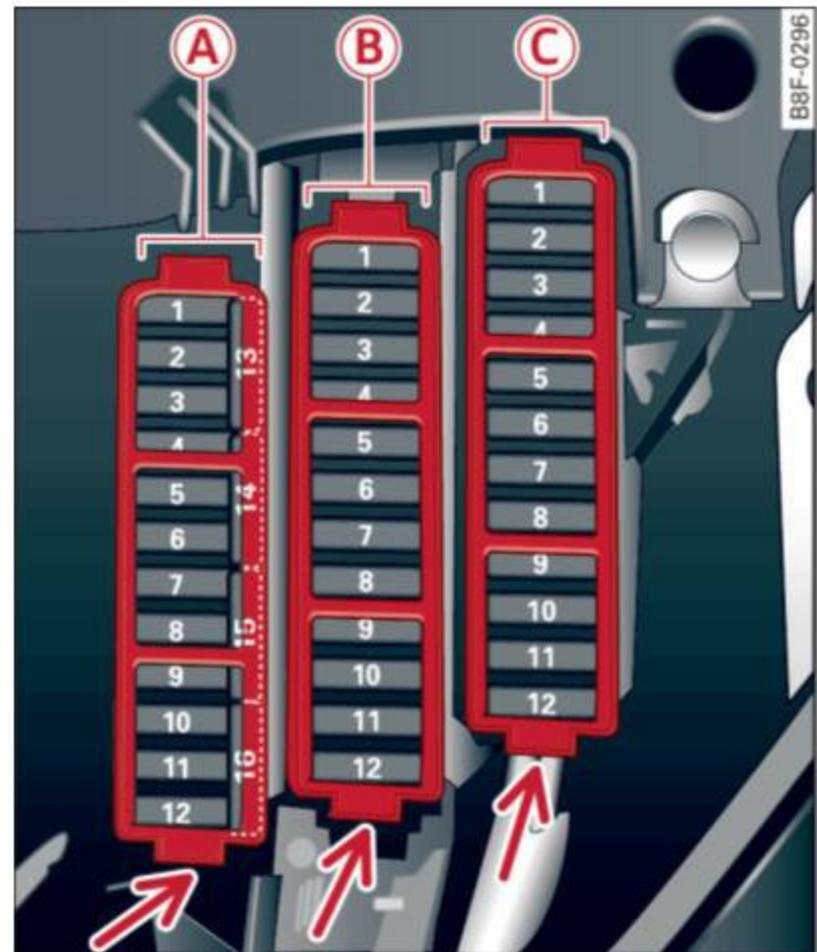

Fig. 210 Left cockpit: fuse panel with plastic clip
- ▶ To remove the purple plastic clip if necessary ¹⁾, hold onto it at the small side and pull it out of the fuse panel ⇒ *page 265, fig. 210*.